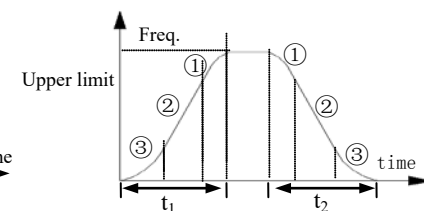

Fig.6-5 S curve Acc/Dec
1: S curve Acc/Dec. Output frequency increases or decreases as s curve shown as Fig.6-5.
S curve start stage time shown as Fig.6-5 (3). The curve slope is increasing from 0. S curve ascent stage time shown as Fig.6-5 (2). The curve slope keeps constant. S curve end stage time shown as Fig.6-5 (1). The curve slope is decreasing to 0.